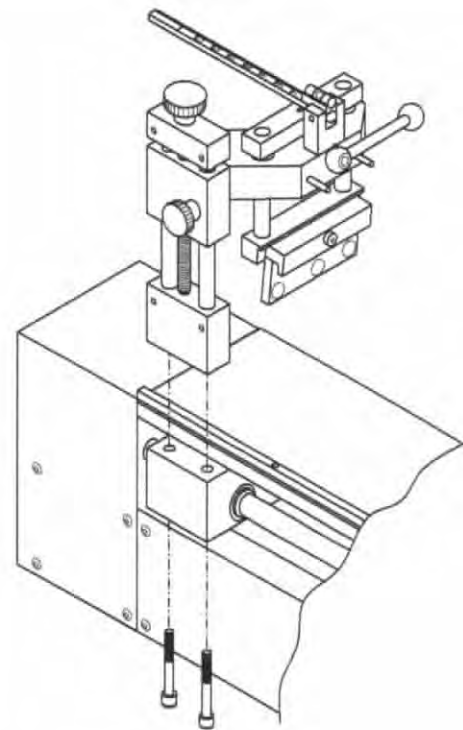

Fig. 1
2. Using the two 1/4" screws supplied, mount the scraper holder assembly on to the slide such as can be seen in figure 1.